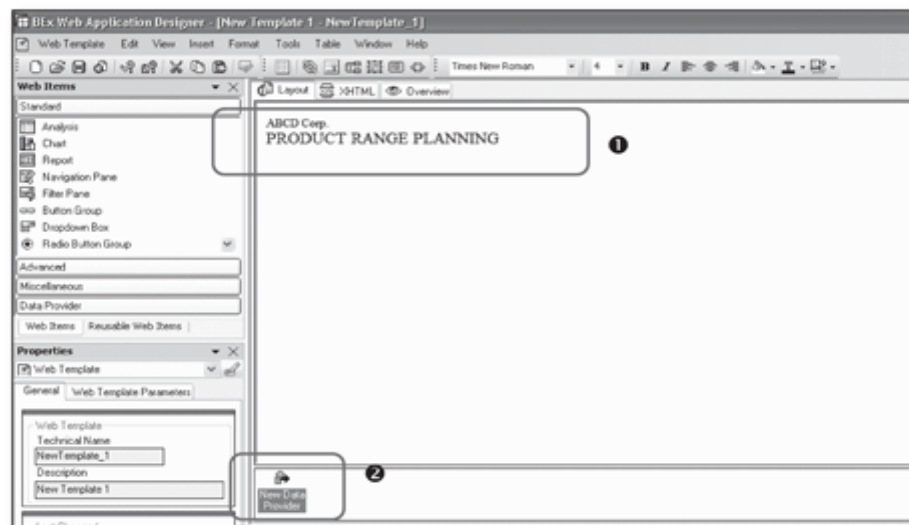
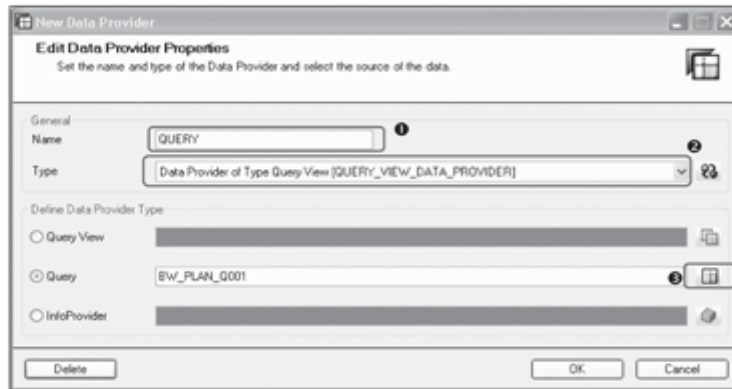

Figure 12.88 Create Heading for Planning Application
Figure 12.89 Define the Data Provider for Input-Ready Query
2. Create the heading for the planning application using the font options available in the web template (❶ of Figure 12.88).
3. Define a new data provider based on the input-ready query. Click on the New Data Provider icon shown in ❷ of Figure 12.88. In the pop-up screen, give a description to the data provider (❶ of Figure 12.89). Select the type of data pro-